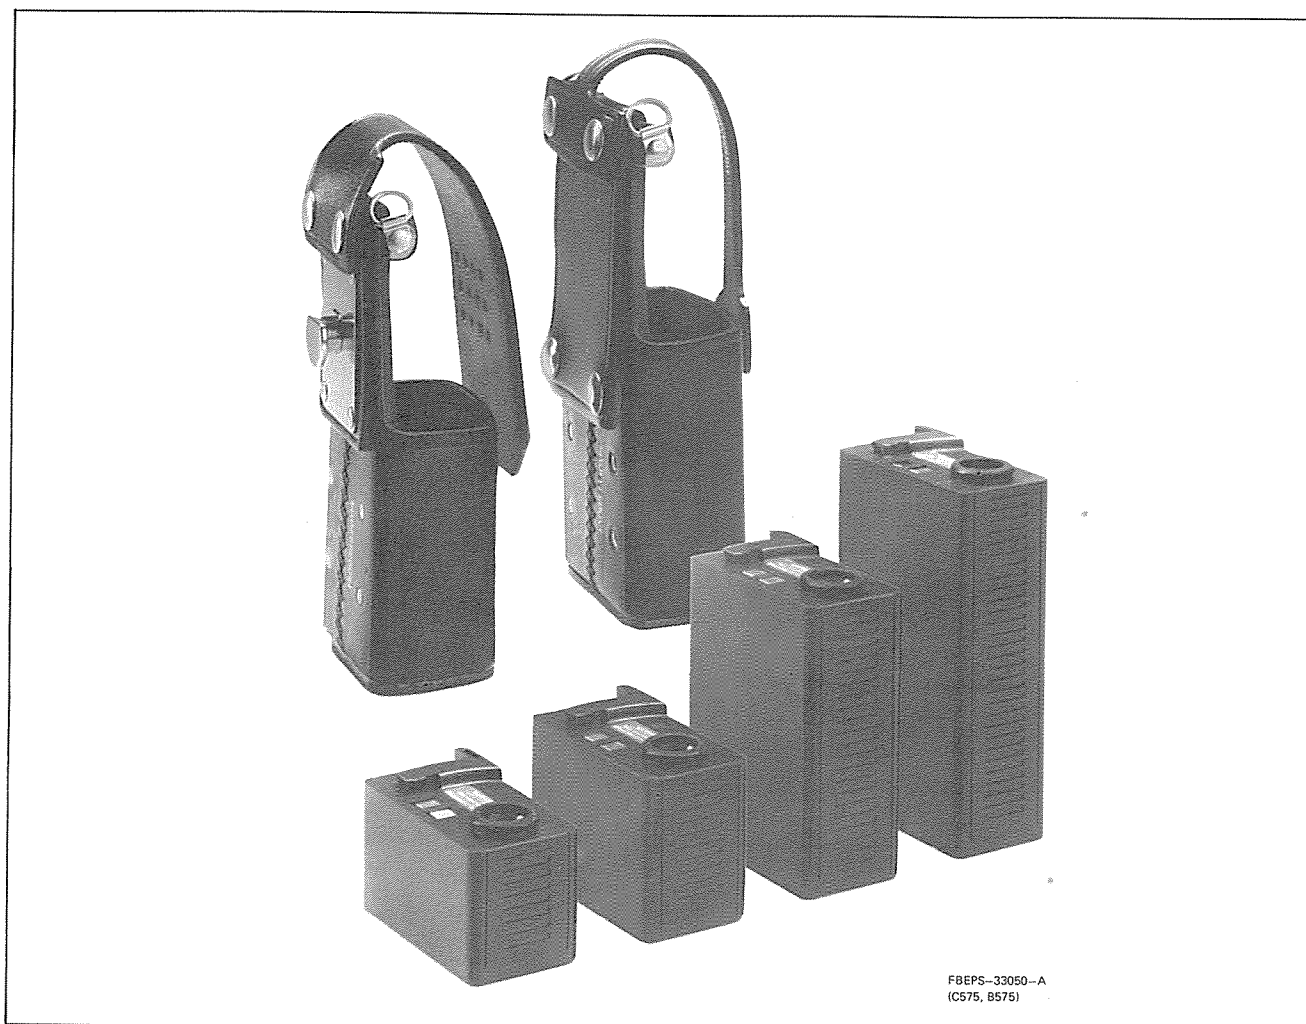

Figure 2. MX300 Series Portable Radio Batteries and Leather Carrying Cases
1.2.1 The code inserter is a slim hand held unit constructed of high impact polycarbonate plastic. It is designed for field use. Its weight and size are determined by the battery selected. See performance specifications in this manual for exact size and weight. The loader uses standard MX300 series portable batteries, chargers, and leather carrying cases. (See Figure 2.)